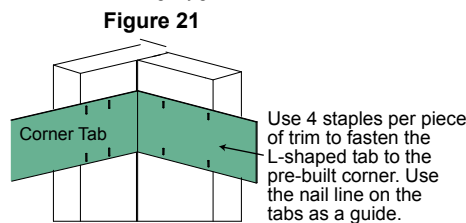

Figure 21
- Attach Corner Tabs to the back side of the trim with 8 18 ga. 1/2"L x 1/4"W narrow crown galvanized staples using a pneumatic staple gun. Ensure the Corner Tabs are fastened tight and straight to the trim boards. (Figure 21)